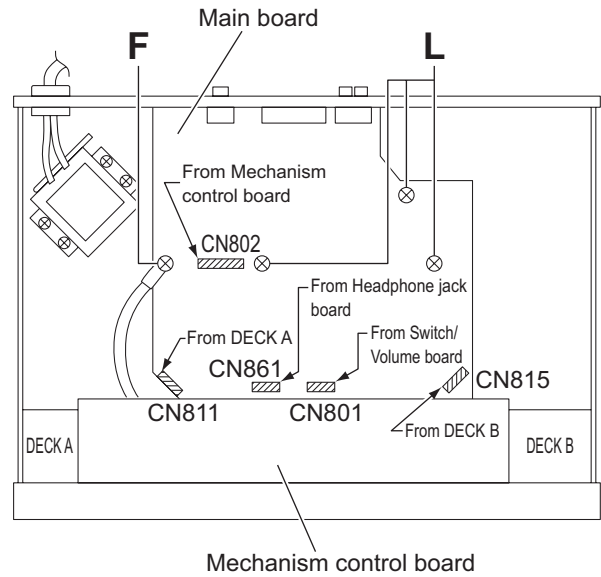

Fig.4
b) Main board side (Fig.4)
- (1) Remove one screw **K** (Deck A or B) retaining the board.
- (2) Do the same for the other side.
3.1.9 Removing the main board (see Fig.4 and 1)